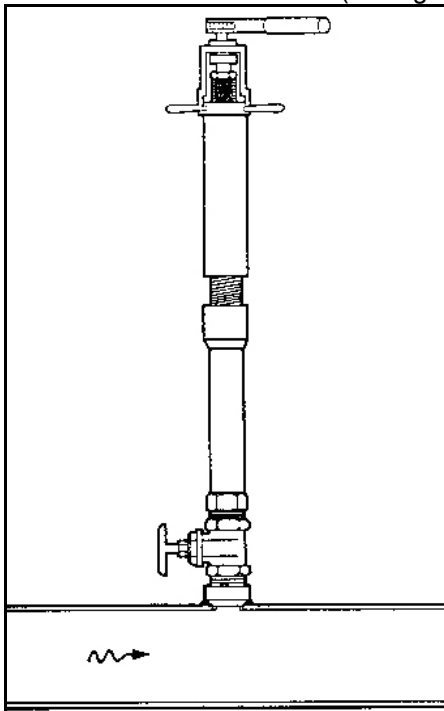

fig. 15
6. Fasten special adapter flange nipple to unit isolation valve (see fig. 15).